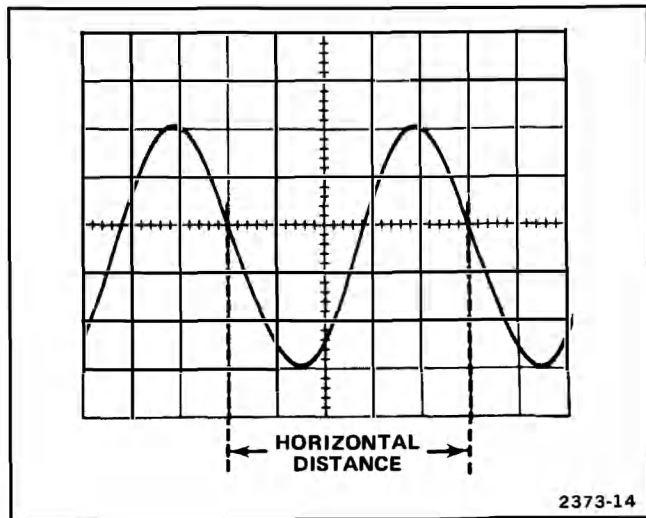

Fig. 14. Measuring the time duration between points on a waveform.
5. For best accuracy use SEC/DIV setting that gives the greatest number of divisions between time measurement points (see fig. 14). Sweep MAGNIFIER (to obtain more displayed divisions) should be used when measuring portions of more complex waveforms.
EXAMPLE: Assume that distance between time measurement points is five divisions (see Fig. 14) and SEC/DIV switch is set at .1 ms.